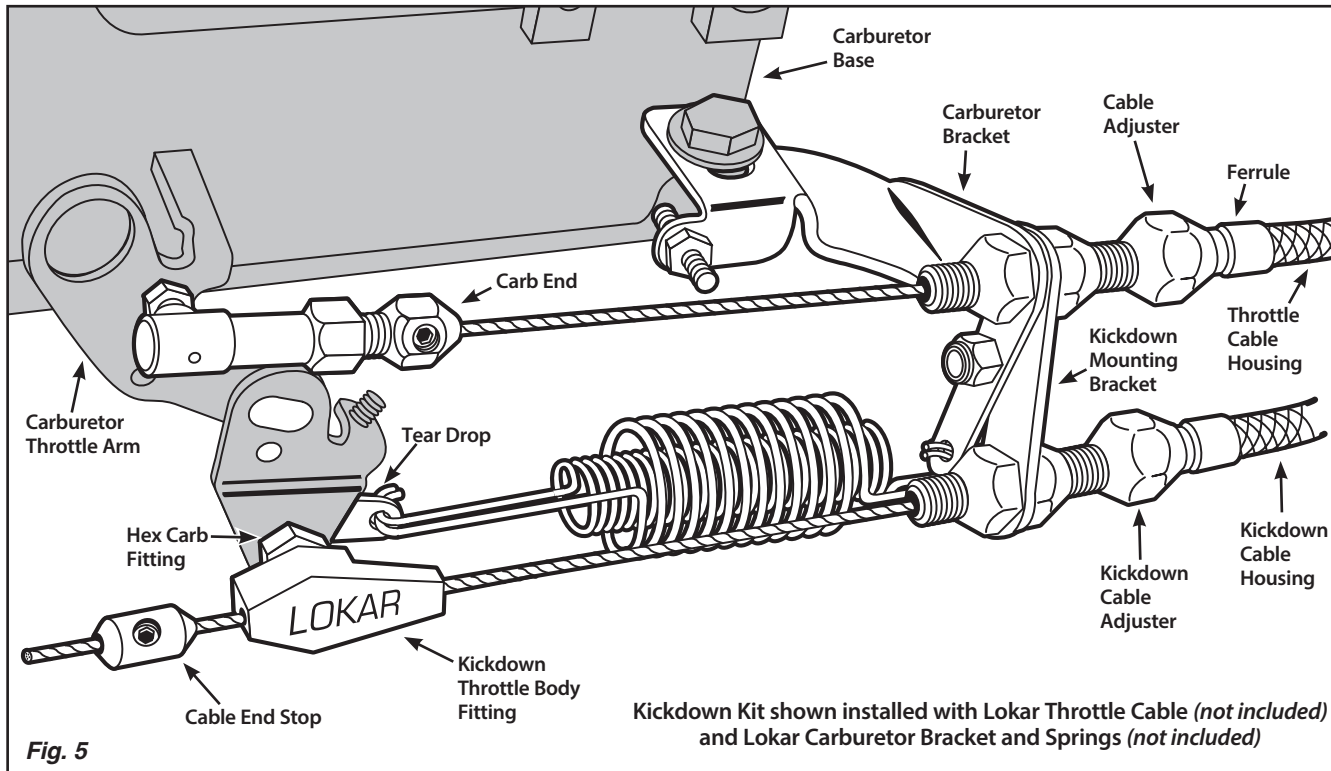

Fig. 5
Step 6: The tear drop (not included, part of the Throttle Cable Bracket & Spring Kit) will be attached to the carburetor throttle arm by the hex carb fitting. Separate the hex carb fitting from the kickdown throttle body fitting. Install the hex carb fitting and the tear drop onto the carburetor throttle arm as shown in Fig. 5. Hook the return springs (not included, part of the Throttle Cable Bracket & Spring kit) to the tear drop. Tighten the hex carb fitting, and then back it off just enough so that the tear drop can swing freely.
Double check to be sure that all carburetor, throttle and kickdown linkage operates freely without binding and that the throttle returns to the closed position when the pedal is released, then test drive. Once the kickdown cable is correctly adjusted and operating properly you can cut off the excess inner wire, leaving about 1/2" extending beyond the cable end stop to allow for future adjustment if needed. Final installation should look like **Fig. 5** at the engine and **Fig. 7** at the transmission.